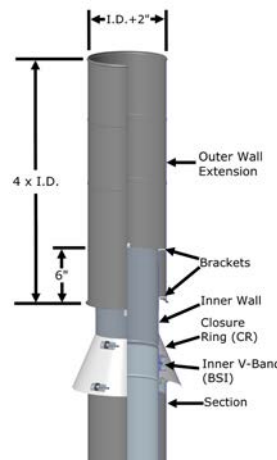

Figure 71a - No Loss Cap (NLC) installed or I.D. from 5" to 13"
The last 6" of the inner flue is surrounded by a larger outer wall (I.D.+2") that has a height of 4 times the flue diameter and is open at the bottom. The Closure Ring (CR) must be sealed to the inner wall with outer Sealant S-375. Rain water that falls into the larger wall washes down the side of the larger chimney and discharges at the bottom. See Figure 71a.
For I.D. from 5" to 13", the No Loss Cap is an integral component that attaches to the chimney flue using a standard inner V-Band (BSI) (See JOINT ASSEMBLY Section). For Models CAX1, CIX1, CIX2 and CIX4, a Closure Ring (CR) is provided to protect the insulated space between standard pipe inner and outer. See Figure 71a